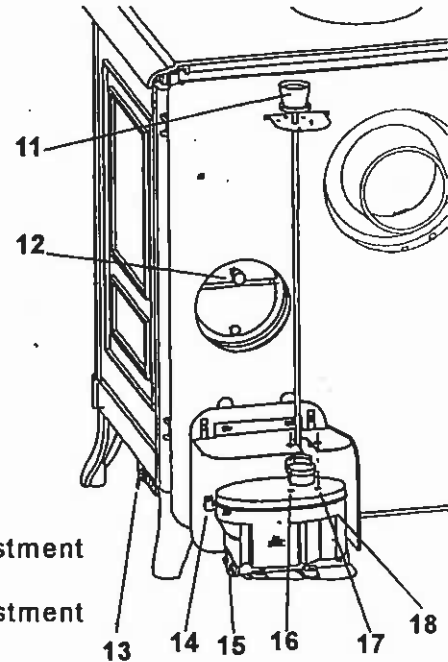
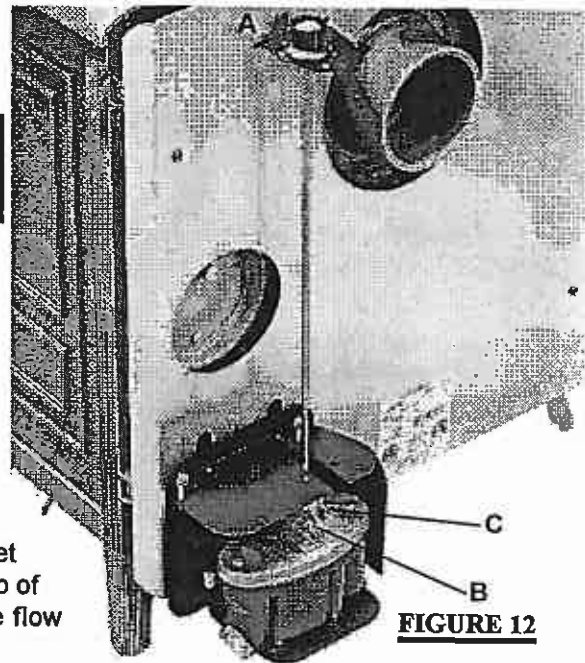

FIGURE 9
FIGURE 12
These segments work together to create the chimney draft. To alter one of them will affect the other two and change the amount of draft in the chimney and ultimately the stove's performance. To ensure that adequate chimney draft is maintained, the chimney should be kept clean and without cracks. As soon as the oil stove has been installed, the chimney draft should be checked with a draftmeter. In order to insert the draftmeter probe into the chimney connector, drill a ¼" hole at the rear of the connector joint approximately 6" from the rear of the flue collar. This may then be sealed with a screw once all testing has been completed. Flue draft is measured when the oil stove is hot (after a minimum use of 30 minutes) to establish a true reading of the draft. For the recommended operating draft level, see 'General Information' on page 4. Draft adjustment can be made through use of the draft regulator located at the back of the oil stove (item 12, figure 9). In the event that the chimney draft is excessive or irregular, a draft stabiliser should to be fitted to the chimney.
In the center of the burner is the catalyser (C) which aids in vaporizing the fuel. When the stove is operation, the catalyser glows red. The stove should not be used without both the catalyser, catalyser top (D) and ring (E). To the right of the unit, just below the side panel is a small push rod called a de-scaling lever, (item 13, figure 9), that should be pushed and pulled in and out as well as turning slightly at the same time to keep the inlet pipe clear of carbon buildup. This should be done on a weekly basis.
ADJUSTMENT AT MINIMUM SPEED: Turn the control knob 'A' to the # 1 dial setting and allow the burner to run for a few moments. The flame must completely cover the bottom of the burner pot and the catalyser should glow red. If the flame is too small, the oil stove will quickly soot up. Turn the set screw 'B' **FIGURE 12** (item 16, **Figure 9**), located on the top of the carburetor, clockwise with a screwdriver to increase the flow of oil.
If the flame is too low, the oil flow rate should be increased by turning the set screw 'C' **FIGURE 12**, (item 17, **Figure 9**) on the carburetor counter-clockwise. If the flame is too high, turn the screw clockwise. The flames should have only occasional contact with the burner ring. The bottom 2" (50 mm) of the flames should be blue in colour with the rest yellow.